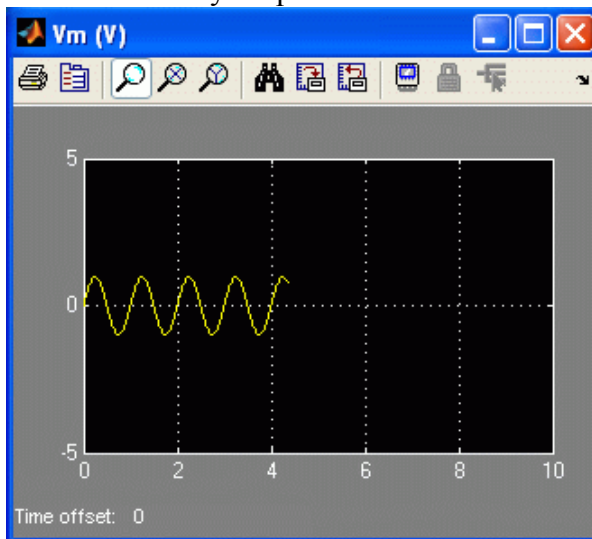
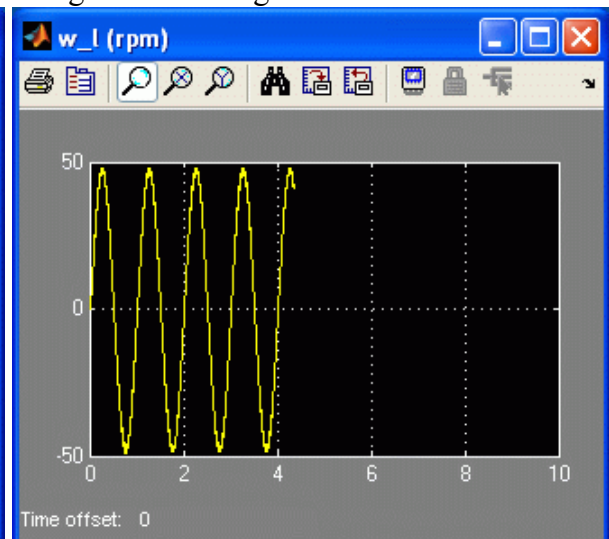

Figure 11: Input voltage scope.
Figure 12: Load shaft velocity measured by tachometer.
12. Examine the relationship between the input voltage and load speed. When the input voltage increases in the positive direction, the tachometer velocity decreases. As with the potentiometer when reading position, the speed of the load shaft should go positive when the input voltage is positive. Thus add a negative sign to the *Tachometer Calibration (rpm/V)* block so the entered value becomes $-1000 / 1.5 / 14$ for low-gear or $-1000 / 1.5 / 70$ for high-gear. The input voltage and load velocity scopes should read as shown in Figure 11 and Figure 12.